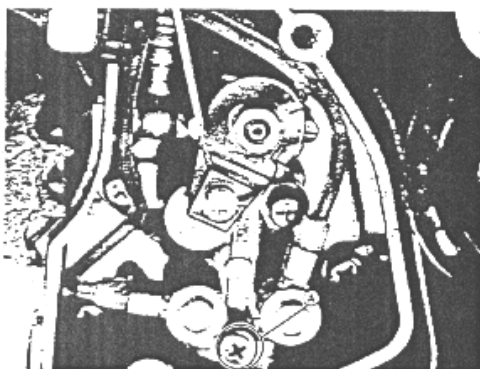

Fig. 2-64
Here's how to bleed the air out: Hold the engine in standstill condition; loosen screw (A), Fig. 2-64, to let out the air; and, after making sure that the trapped air has all been bled out, tighten the screw good and hard.